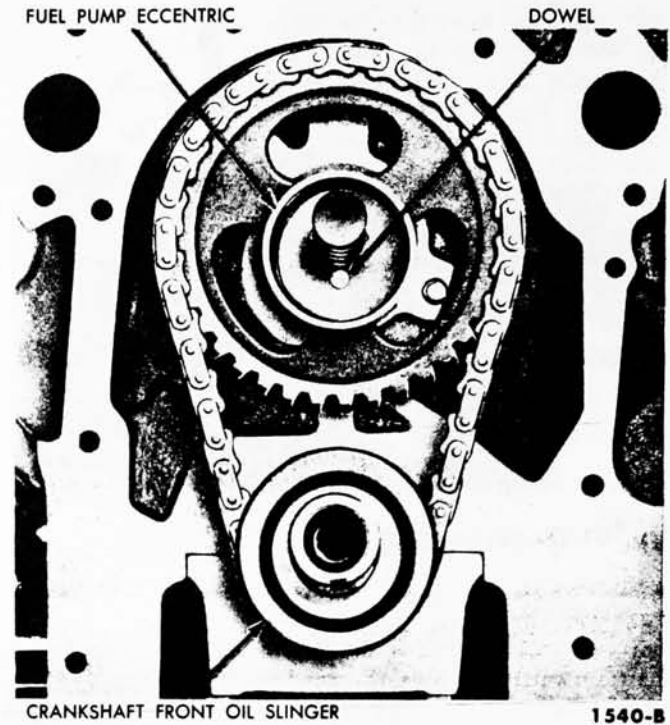

FIG. 45—Fuel Pump Eccentric and Front Oil Slinger Installed
6. Install the fuel pump eccentric (Fig. 45), and the camshaft sprocket cap screw and thrust button spring retainer. Tighten the sprocket cap screw to specifications. Install the camshaft thrust button spring and thrust button. Install the crankshaft front oil slinger.